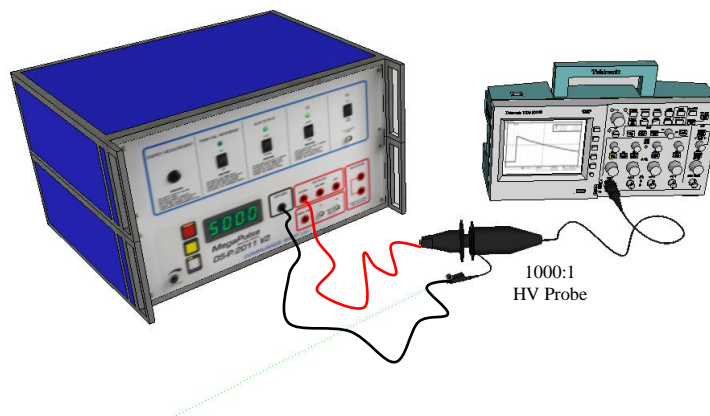

Figure 4. Checkout Pulse Setup
12. Connect the ends of the test leads to the measuring instrument. See Figure 4 as an example.